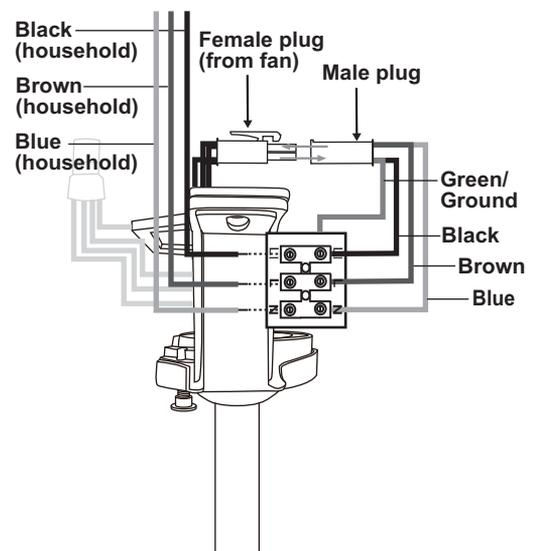

Figure 16
4. Connect the blue, neutral household neutral wire to the terminal block "N" hole. Connect the brown, hot household neutral wire to the terminal block "L" hole. Connect the black, hot household neutral wire to the terminal block "LI" hole. (Fig. 16 & 17)